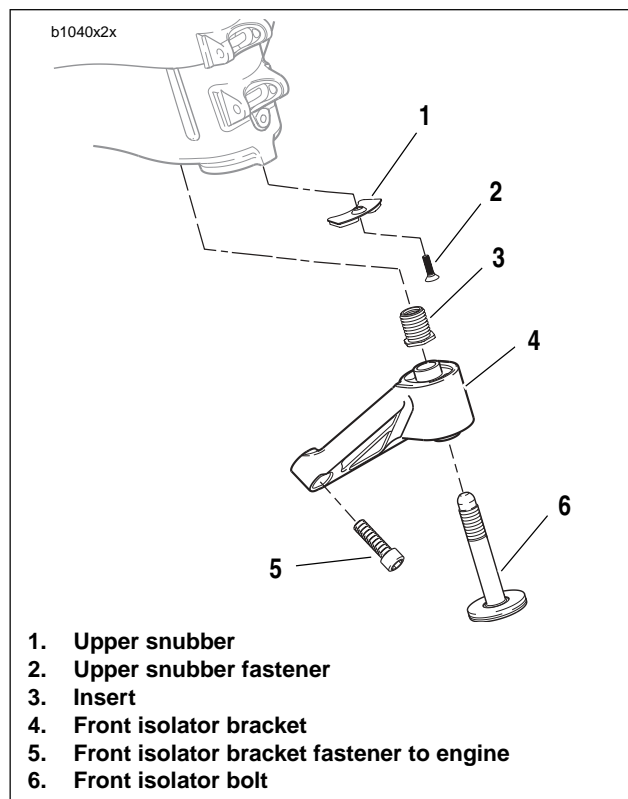

Figure 2-83. Front Isolator
3. See Figure 2-83. Remove front isolator bolt (6).
4. Remove front isolator mount fasteners (5).
5. Remove front isolator bracket (4).
6. Remove upper snubber fastener (2) and remove upper snubber (1).
1. See Figure 2-83. Install upper snubber (1) tightening snubber fastener (2) to 12-36 **in-lbs** (1-4 Nm).
3. See Figure 2-83. Use LOCTITE 272 on front isolator bracket (4) and install. Tightening fastener (5) to 49-51 **ft-lbs** (66-69 Nm).
See Figure 2-83. If the threaded insert (3) is damaged and needs to be replaced, install new insert with LOCTITE 272 and tighten to 49-51 **Ft-Lbs** (66.4-69.1 Nm).